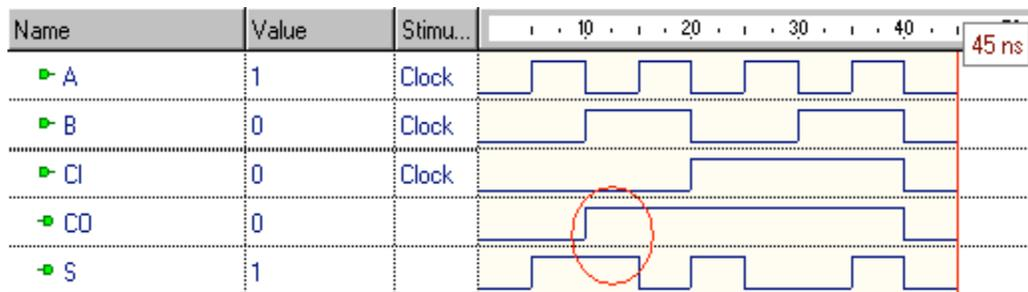

Figure 46
- Now we compiled the design, and it compiled successfully. Therefore, we initialized a simulation, added the signals to a waveform, provided clock stimulators for the signals, and simulated the design. Figure 46 shows the results of this simulation. When comparing the waveform to the expected results (we used a truth table), everything looked fine until we got to the 10 to 15 ns period. The sum should have been 1 and the carryout should have been 0, but both were 1. This showed us that there was a logic error.